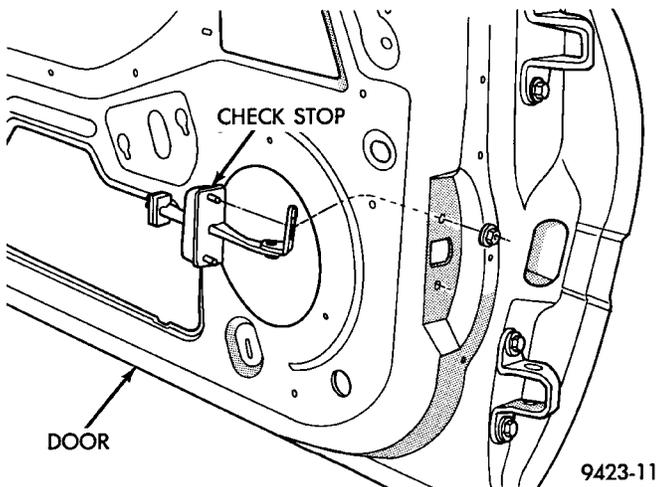

Fig. 30 Front Door Check Stop
- (1) Remove door trim panel and water shield.
- (2) Remove bolt holding check stop to hinge pillar.
- (3) Remove door speaker.
- (4) Remove bolts holding check stop to door end frame (Fig. 30).
- (5) Separate check stop from vehicle.